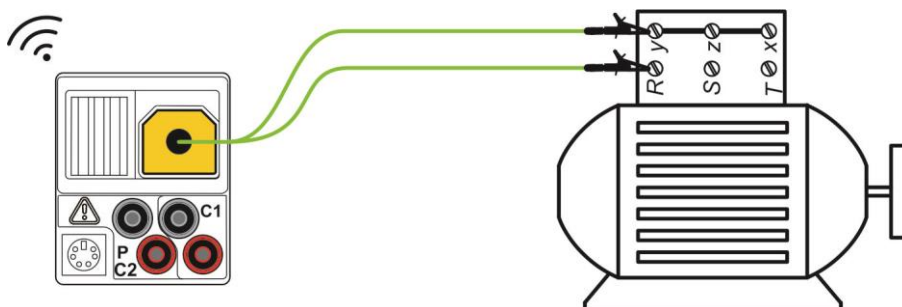

Figure 5.8: Example of Continuity test
- ❑ **Connect** test leads to the tested object (see Figure 5.8).